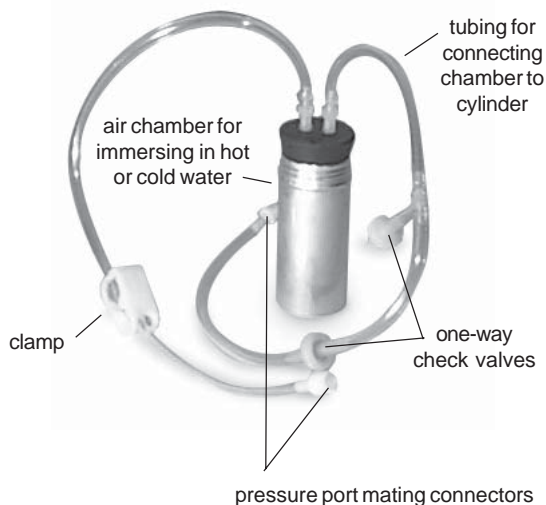

Figure 2. Air chamber and tubing
- air chamber (Figure 2)
- 3 hose configurations: one with one-way check valves and one with a clamp (Figure 2), and one plain piece of tubing (not shown)